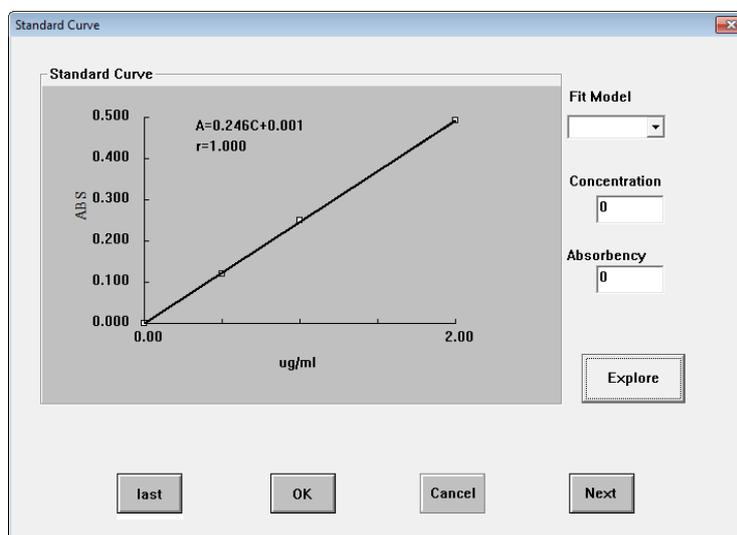

Fig. 3-10
- Click "Next" to switch to the standard curve interface. Then, click "OK" and a standard curve will be shown (Fig. 3-10).